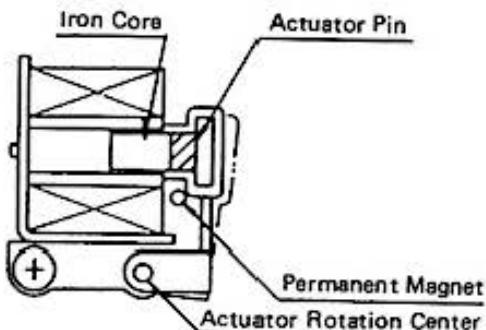

Fig. 3
<p>The wire must be stretched in the order described below:</p> <ol style="list-style-type: none"> 1) As shown in Fig. 1, the spring must be pressed against the side plate using a finger tip with the knot of the wire in alignment with the side plate at point (A). 2) Next, thread the leading edge of the wire through the pulley (B) and the protrusion (C). 3) As shown in Fig. 2, align the slit (D) of the bobbin gear so that it should on a line drawn between the bobbin gear shaft (E) and the idler gear shaft (F).  <p>Fig. 2</p> <ol style="list-style-type: none"> 4) Wind the wire around the bobbin gear for one and half a turn, then thread it through slits.  <p>Fig. 3</p>